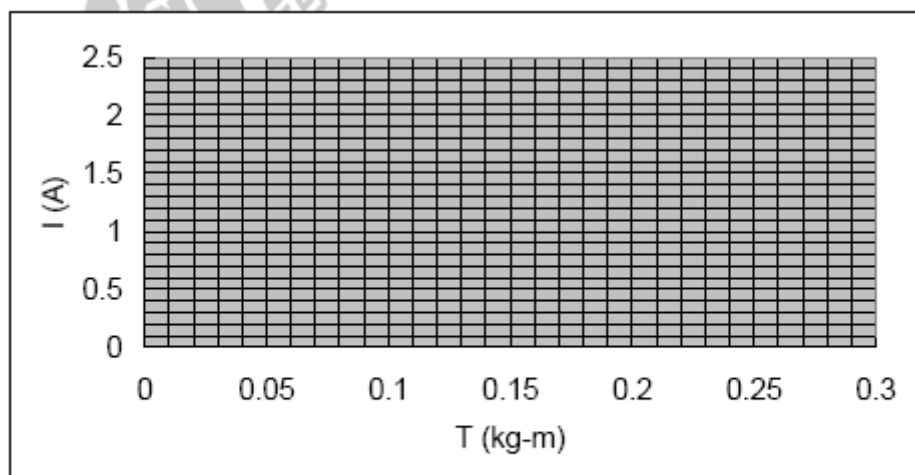

Fig. 3-2-4 The I vs T curve
13. Using the results of Table 3-2-1, plot the I vs T curve on the graph of Fig. 3-2-4.